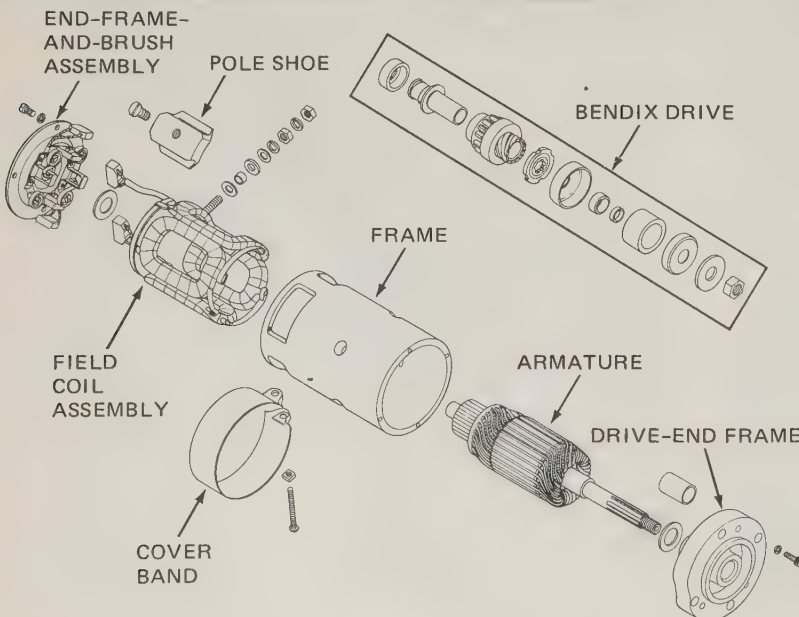
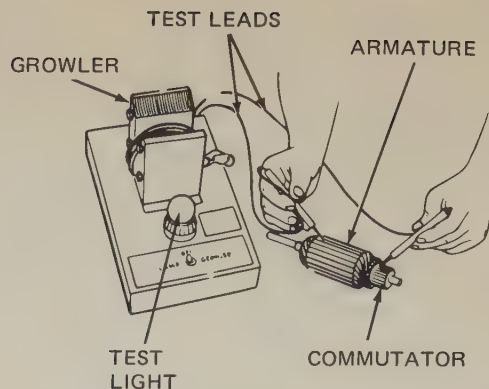
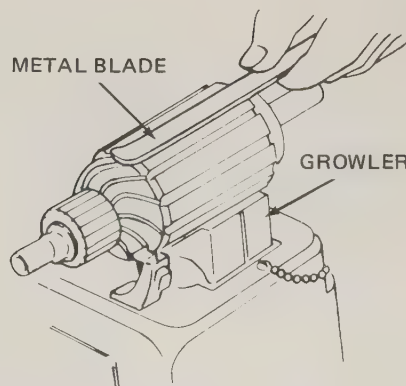

FIG. 24-33 Disassembled view of an electric starter with a Bendix drive. (Kohler Company)
FIG. 24-36 Checking an armature for grounds using a test light. (Outboard Marine Corporation)
FIG. 24-37 Testing an armature for short circuits on a growler. (Delco-Remy Division of General Motors Corporation)
**Inspecting the Starter Motor** If everything outside of the starter looks satisfactory, then check the starter brushes and commutator. Some starters have a cover band which can be removed. This type of starter is shown in Fig. 24-33. On other starters, such as shown in Fig. 23-18, you must remove the end frame or cap assembly. This is done by removing the two through bolts so that the cap can be slipped off part of the way. To take the cap completely off, take the insulated brush out of the brush holder. This is done by lifting the spring and gently pulling the brush out.
○ 24-12 STARTER-MOTOR SERVICE Many manufacturers supply detailed instructions and illustrations, such as shown in Fig. 24-33, to help you rebuild starter motors. When the starter is disassembled, the armature, field-frame assembly, and brush holders should be checked with a test light for shorts and grounds. Using a test light on a growler to check for grounds in the armature is shown in Fig. 24-36. If the armature is in good condition, place it in the growler and check for shorts, as shown in Fig. 24-37. If the commutator on the armature is worn, burned, or out-of-round, place the armature in an armature lathe, as shown in Fig. 24-38. Remove only enough metal to clean the commutator and restore it to a round condition. Then the mica should be undercut, as shown in Fig. 24-39. Your instructor will show you how to perform these operations in the shop.